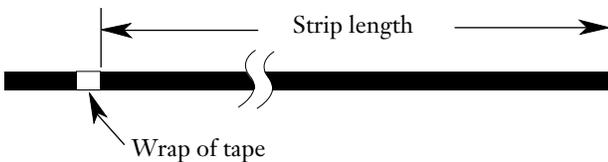

Figure 2
4.2 Mark the cable at the appropriate distance from the cable end with a wrap of tape (Figure 2).